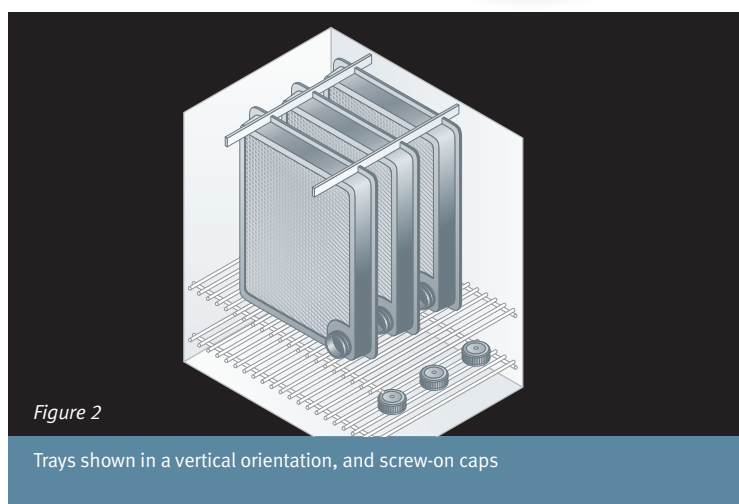

Figure 2
- Place screw caps top-side up in a single layer in the sterilizer. Do not stack (Figure 2).
- For vertical placement, place the trays vertically in the sterilizer, so they rest on the short edge of the plastic frame. To minimize distortion of the plastic frame, trays should be sufficiently supported to remain vertical during the entire autoclave cycle (Figure 2).